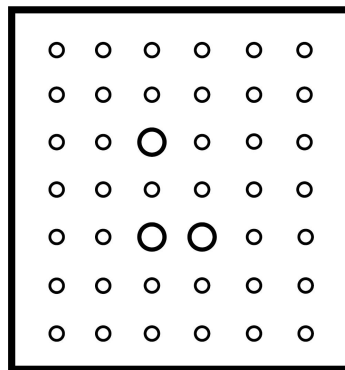

Figure 6-1 Master Plate of 3DeVOK MQ
1. Take out the master plate from the bag, place it on a flat and light-color table, as shown in Figure 6-1.